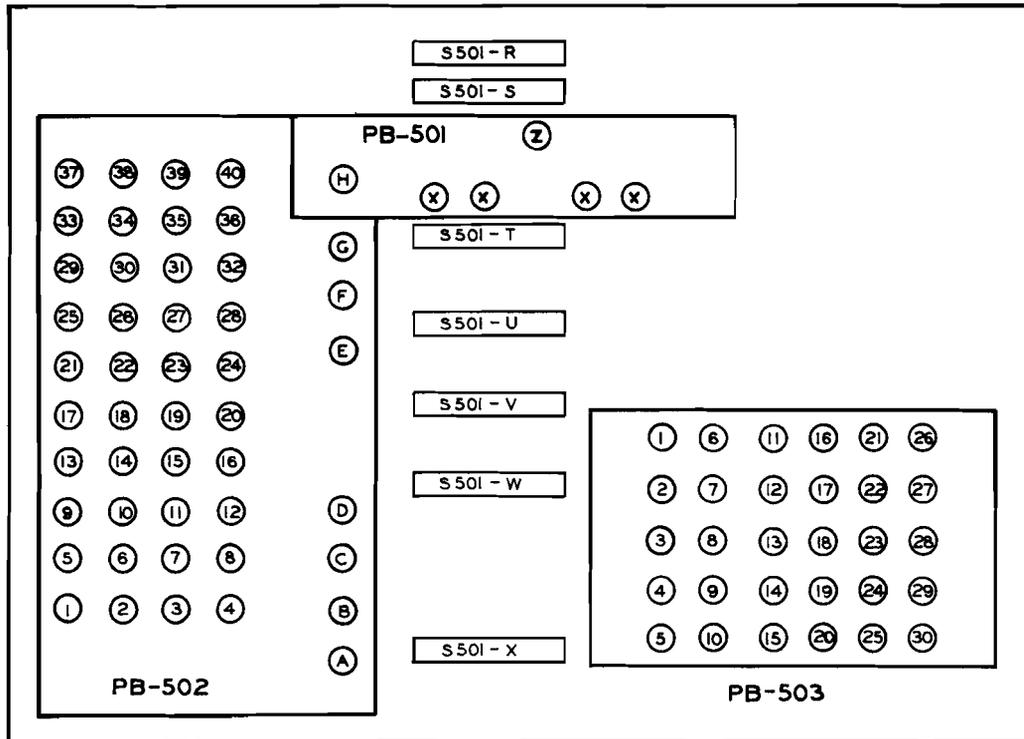

Figure 4-4. Program-Board Nomenclature for Transmitter Final Amplifier
c. Locate Program Board PB501 from Figure 4-4 and connect the 10 colored wires from Switch S501S (Ledex-controlled) to either the four X posts or the single Z post. Spread the wires among the X posts evenly.
d. Locate Program Board PB502 on Figure 4-4 and connect the 10 colored wires from S501T to E, F, G, or H as required.
g. Locate Program Board PB503 on Figure 4-4 and connect the 10 colored wires from Switch S501V to terminals 1 through 30 as required.